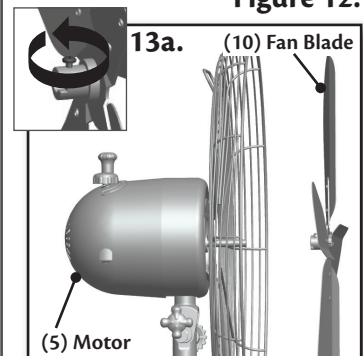

Figure 13.
3. Loosen the Screw on the back of the Fan Blade(10), 13a., and slide the Fan Blade onto the post on the Motor(5). Figure 13.